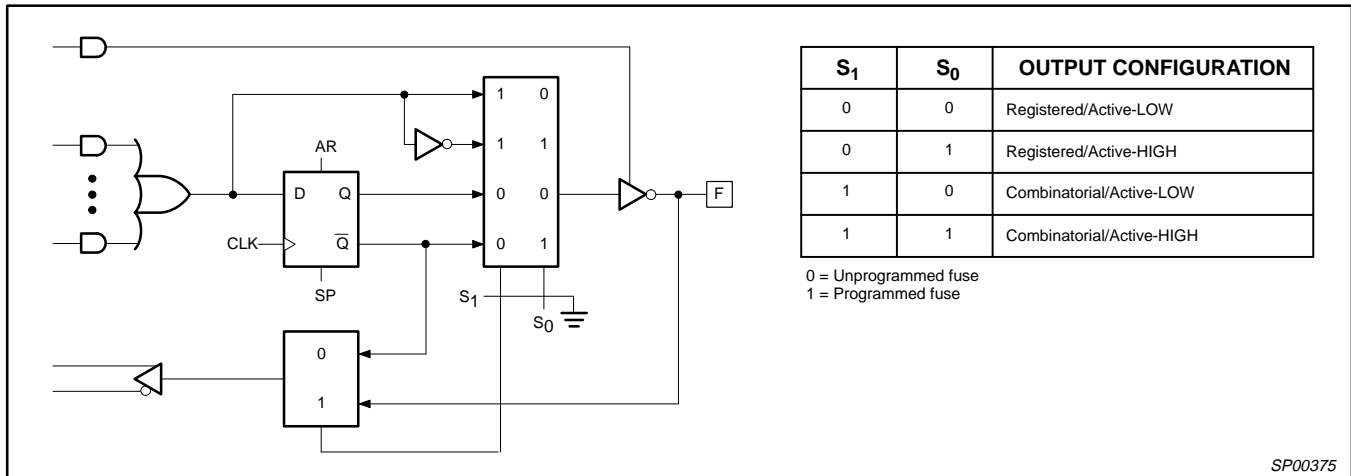

Figure 2. Output Macro Cell Logic Diagram
registered output or combinatorial I/O, Active-HIGH or Active-LOW (see Figure 2). The configuration choice is made according to the user's design specification and corresponding programming of the configuration bits  $S_0 - S_4$ . Multiplexer controls are connected to ground (0) through a programmable fuse link, selecting the "0" path through the multiplexer. Programming the fuse disconnects the control line from GND and it floats to  $V_{CC}$  (1), selecting the "1" path.